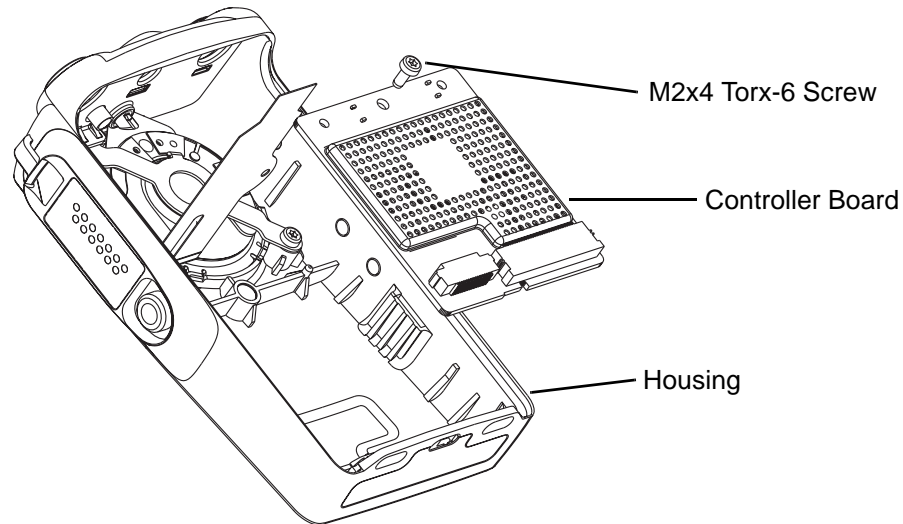

Figure 3-15 Removing the Controller Board from the Radio Body
2. Insert a flat blade screwdriver in between the controller board and front cover. Pull up the screwdriver to disassemble the controller board from front cover. (See Figure 3-15.).